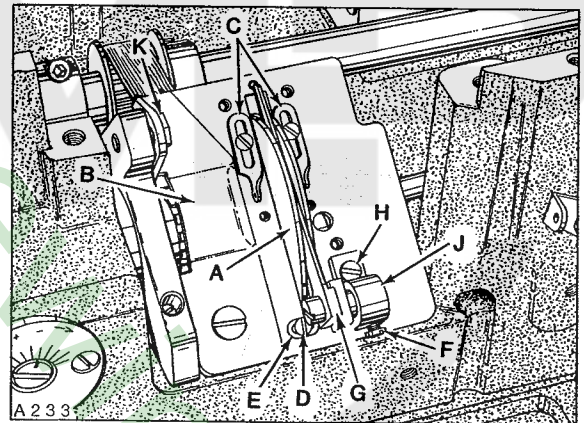

Fig. 27
Looper thread take-up (A, Fig. 27) should be centered, left to right, in cast-off plate (B). As the needle bar is descending, the take-up should be in position to cast-off looper thread just as the tip of needle is even with the bottom of looper. Adjustment can be made by loosening two screws in take-up (through access hole in cast-off plate), reposition take-up as required and retighten screws. Set adjustable eyelets (C) 1/2 inch (12.7mm) below centerline of their mounting screws.